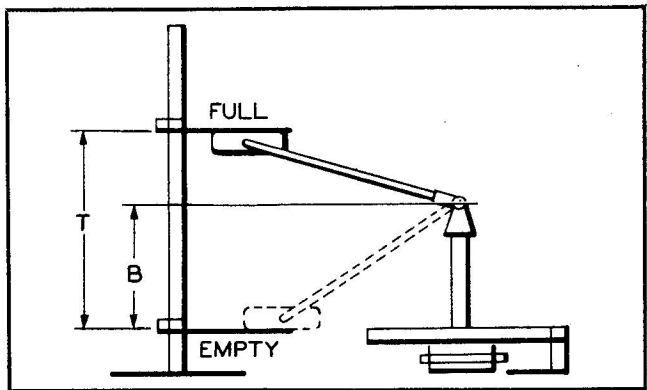

Figure 4-234. Set-Up Stand Diagram
a. With tank unit in a set-up stand (figure 4-234) adjusted to dimensions given in figure 4-233, connect a Kelvin Wheatstone Resistance Bridge (No. 638R, Shallcross Manufacturing Co., Collingdale, Pa., or equivalent) across pins A and B of the tank unit electrical receptacle.